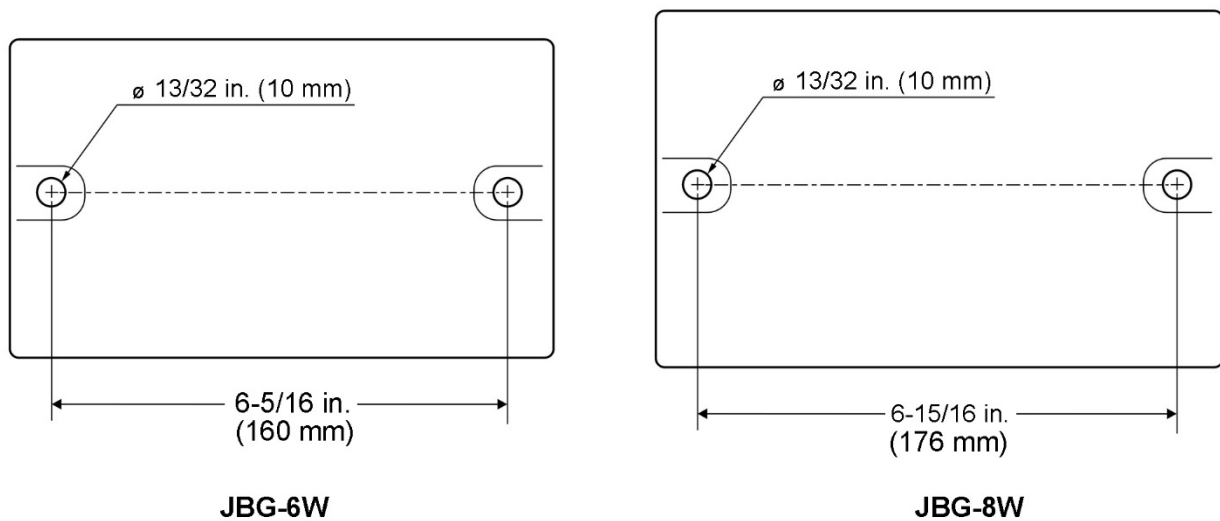

Figure 4-1: hole centers
1. Align the mounting holes on grinder with predrilled holes in a bench or grinder stand. Figure 4-1 shows hole centers for mounting.